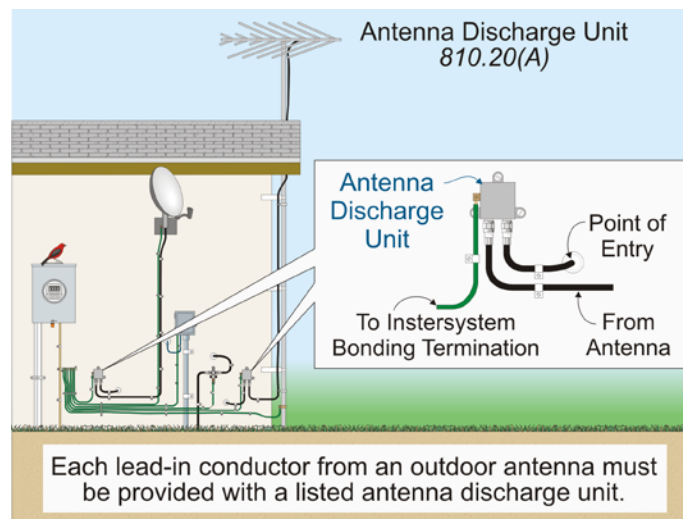

Figure 810-10
(A) Required. Each lead-in conductor from an outdoor antenna must be provided with a listed antenna discharge unit. **Figure 810-10**